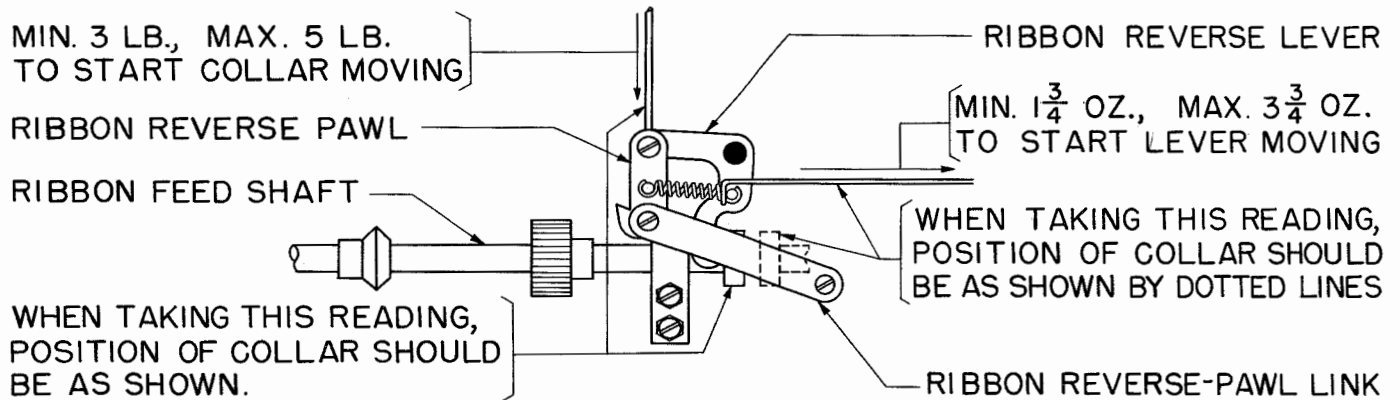

Figure 19
2.29 Left and Right Ribbon-feed-shaft Safety-springs: With the mainbail in its uppermost position and the ribbon-feed shaft held in its left-hand position, it shall require a push as indicated in Figure 19 to just start the right spring-collar moving.
2.30 Left and Right Ribbon-reverse-pawl Springs: With the ribbon-feed shaft in its left-hand position, it shall require a pull as indicated in Figure 19 to start the left ribbon-reverse lever moving.